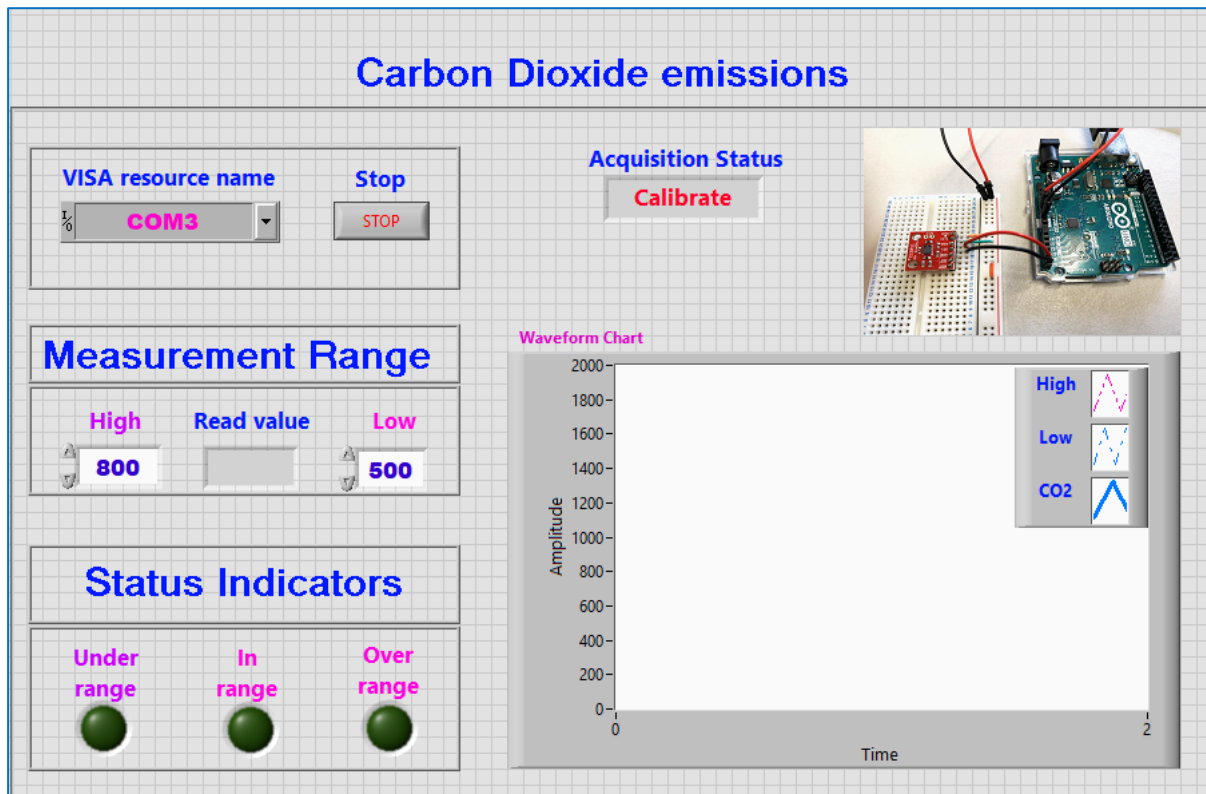

Figure 6. Front Panel View
6.4.- Include a Waveform Chart to show the input values as they enter through the Serial Port as shown in *Figure 6*.
6.6.- Moreover, use the *In Range and Coerce* function to determines whether the value incoming from the Serial Port remains within the range (between Low and High value). The response goes into the Case Structure (*Figure 6*).